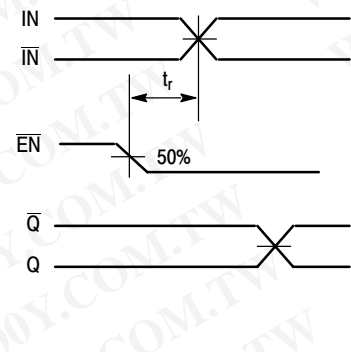

Figure 5. Release Time
19. The release time is the minimum time that EN must be deasserted prior to the next IN/ $\bar{IN}$  transition to ensure an output response that meets the specified IN to Q propagation delay and output transition times (Figure 5).